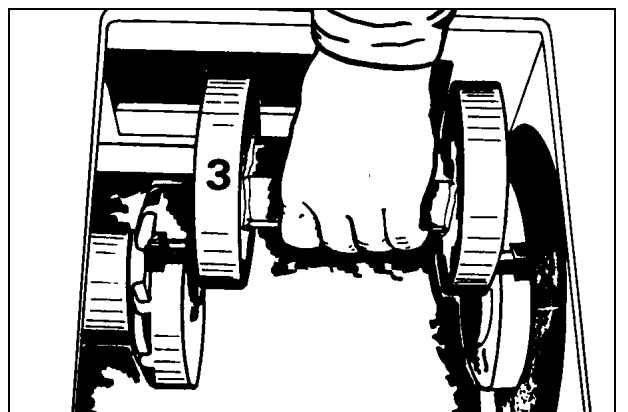

Fig. 3
- Remove distance piece (Fig. 3).